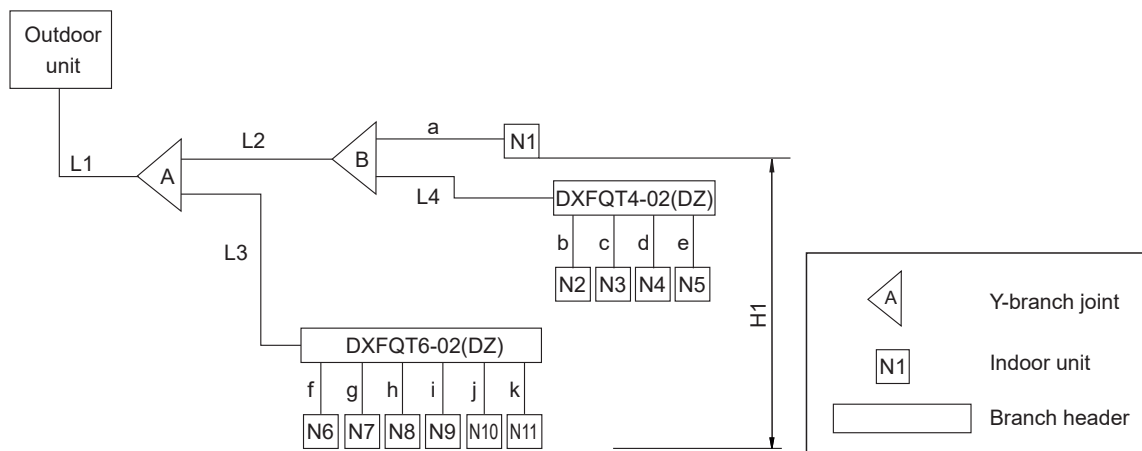

Fig.5
3. Restrictions of piping length and high/low difference. See Fig.5.